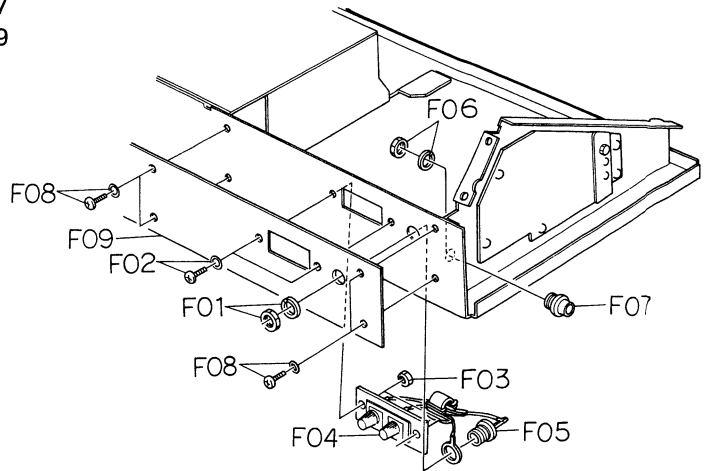

Fig. 3.11
Refer to Fig. 3.11. Remove cabinet ass'y referring to item 3.1.